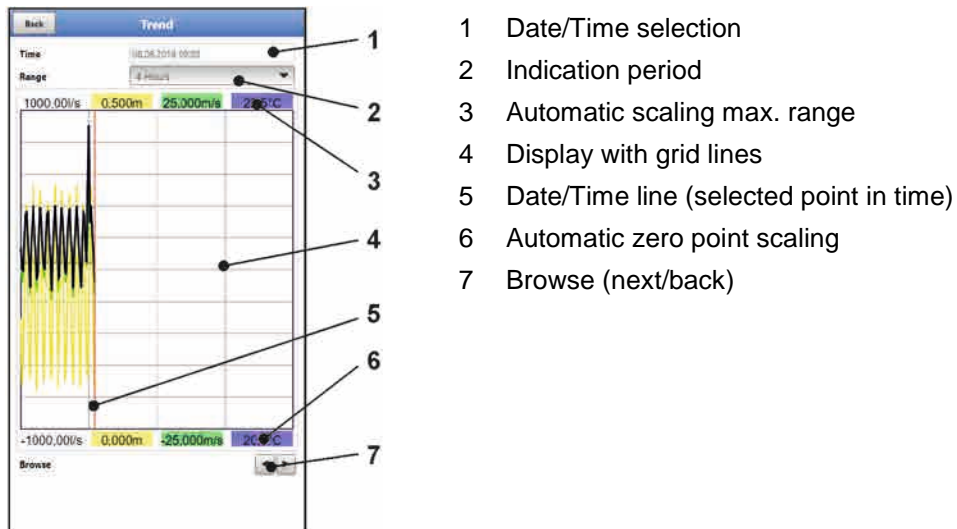
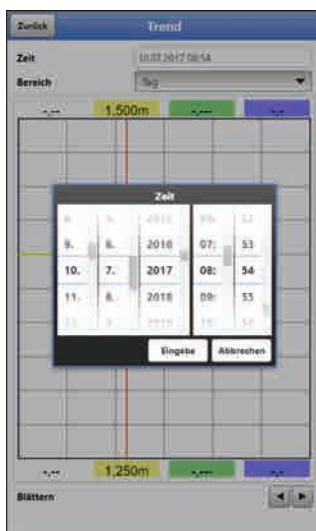

Fig. 39-2 Trend Graph Details
Fig. 39-3 Selecting Time/Date
1. Select the desired range (indication period; Fig. 39-2 no. 2).
2. Use the arrows (Fig. 39-2 no. 7) to browse next or back if required leaving the basic display settings unaltered.
Opening the Trend menu shows the current date and time. If you wish to view historic readings/a particular point in time select the desired period from the Date/time selection screen (Fig. 39-2 no. 1). Here the selection mask below opens up (Fig. 39-3). The readings are indicated (depending on the period set) in the subsequent screen once a start date is selected.